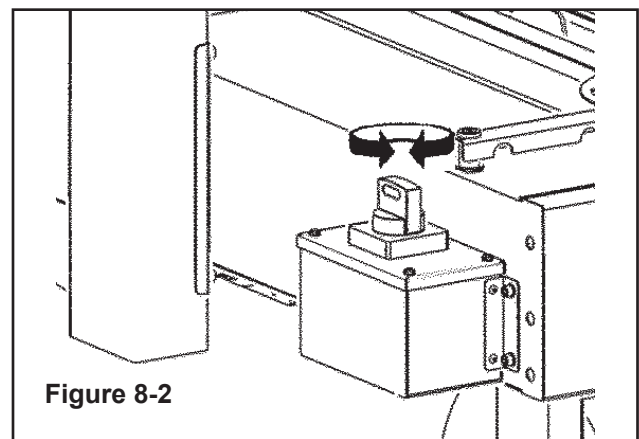

Figure 8-2
- The main rotary switch start switch "ON" (**Figure 8-2**)